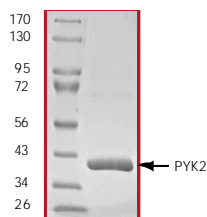

Figure 1: The approximate molecular weight is 39 kDa and the purity is > 95%.
- Molecular Mass** ♦ The approximate molecular weight is 39 kDa (see Figure 1 below).
- Purity** ♦ The purity was determined to be > 95% by densitometry (see Figure 1 below).